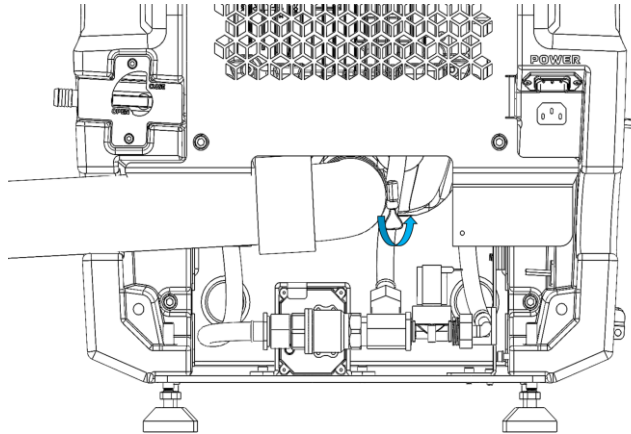

FIGURE 2-9
2. Loosen the hose clip as shown in Fig. 2-9.